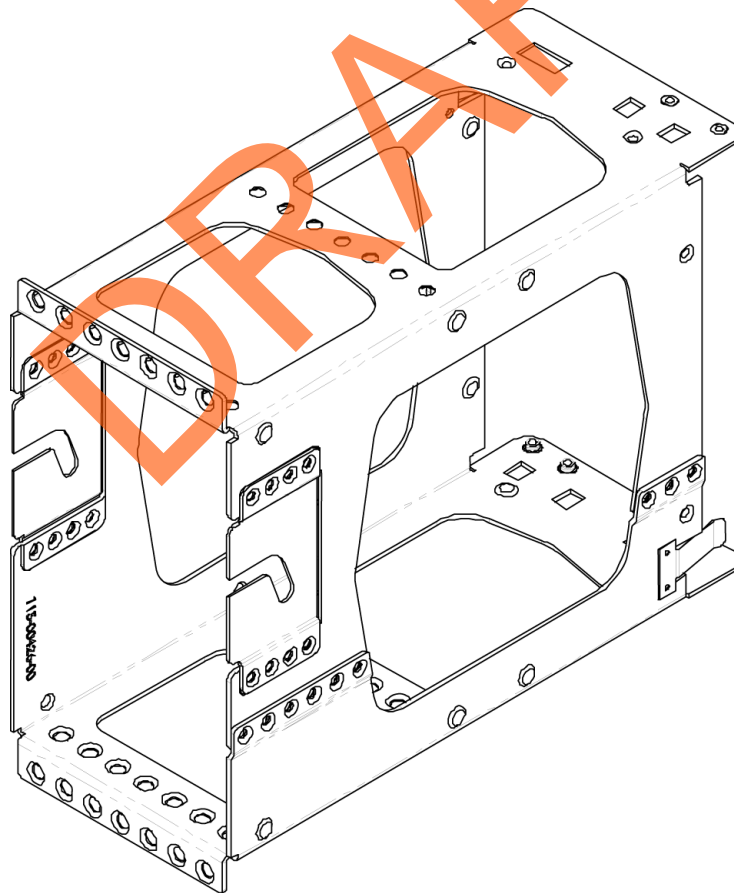

Figure 2-2. GIA 63(W) Modular Rack
Figure 2-2 and Figure B-2 show the GIA 63(W) G1000 modular rack. The modular rack is fastened to the main system rack using the nutplate kit listed in Section 2.1.2. Refer to Figure B-2 for nutplate placement locations. Figure B-1 gives the GIA 63(W) modular rack dimensions.